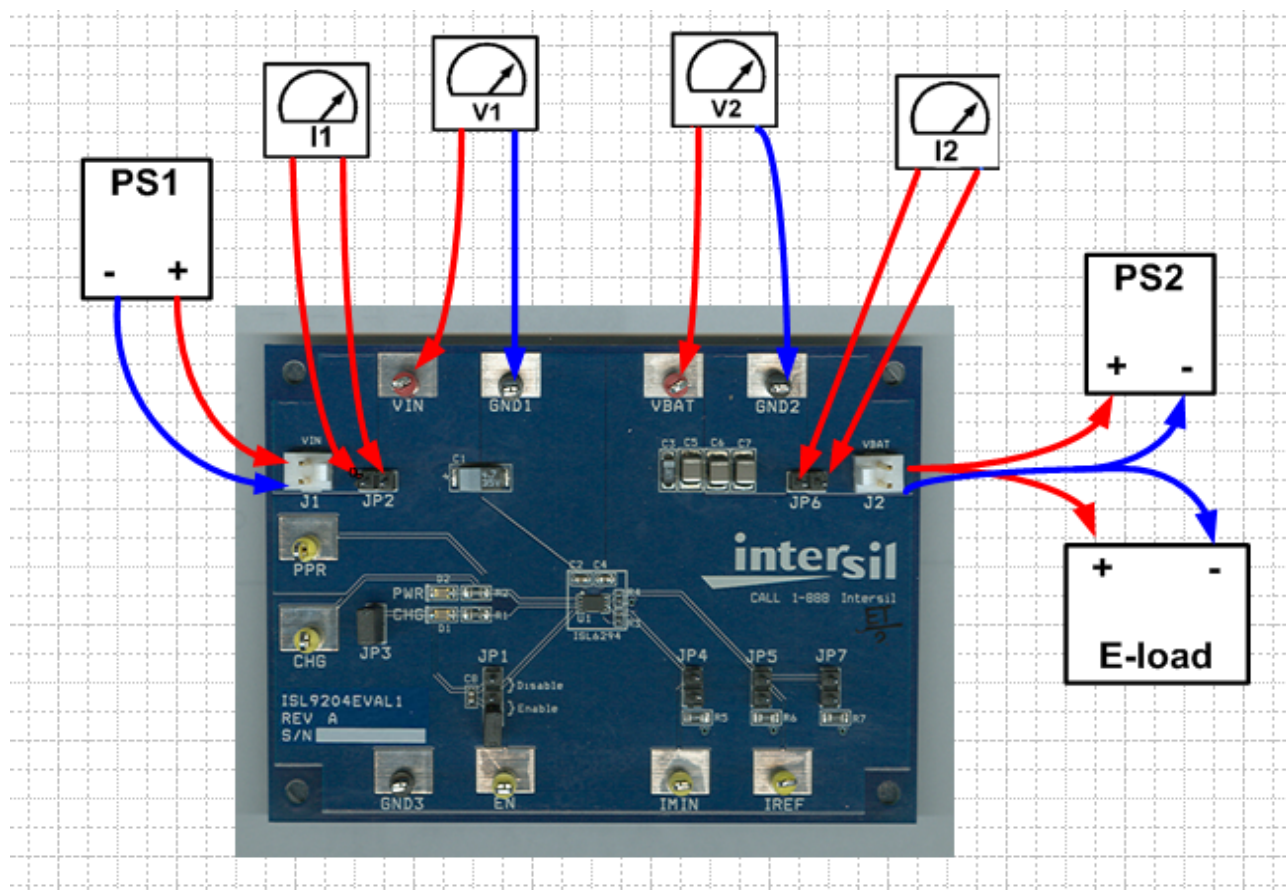

FIGURE 1. CONNECTION OF INSTRUMENTS
**Quick Setup Guide (Refer to Figure 1)****DO NOT APPLY POWER UNTIL STEP 5**